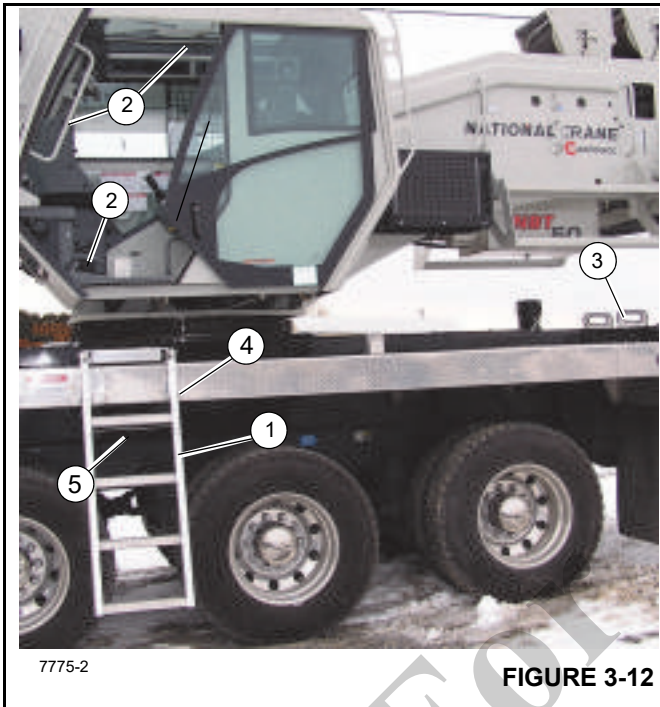

FIGURE 3-12
To enter the crane cab use the ladder (1, Figure 3-12) stowed next to the cab on the carrier decking and position it as shown in Figure 3-12. The ladder is secured in position by latches (4). Climb the ladder and at the same time grasp the grab handles (2) in the cab doorway to enter the cab. Do not try to access the crane cab by other means. Release the ladder using handle (5) and lift and rotate to the stowed position.
Ladder (3) is stowed at the right rear of the crane and is also used to access the cab and superstructure area from the right side of the crane (left side is shown in Figure 3-12). Two sets of holes in the crane left side decking are provided to insert the ladder (3) in the same positions as shown in Figure 3-12.